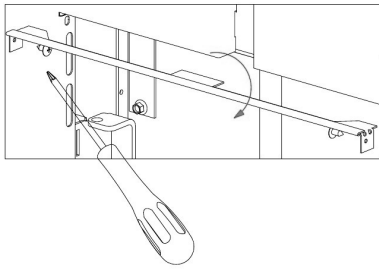

Fig. 54 - Remove profiles
- Loosen the 4 screws and remove the black panels above and below the door (see **Fig. 54**).